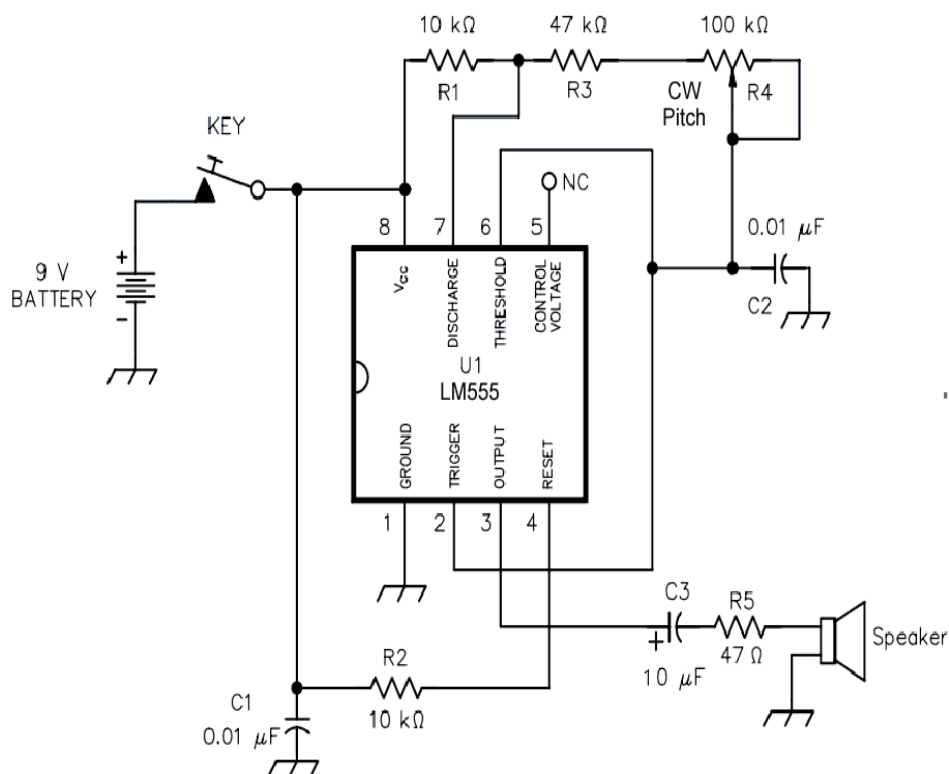

Figure 2: ARRL LM555 Code Practice Oscillator. (Adapted from <http://www.arrl.org/files/file/Technology/tis/info/pdf/NTY.pdf>)
Figure 2 is the schematic diagram of the circuit. This is a great starter circuit as it has few components and can be assembled in a single evening.
The circuit of Figure 2 is typical of LM555-based circuits. In this circuit, the LM555 is wired as an *astable multivibrator* (square-wave oscillator). It's connected to the 9V battery when the key is depressed. The tone frequency (CW pitch) is controlled by R1, R3, variable resistor R4, and C2. These components form the RC time-constants that define the overall frequency of the oscillator. Since R4 is a variable resistor, the RC time-constant is variable and this allows the
*Look at Figure 2 in Tom's article, the schematic diagram of Tom's CPO. Find pin 4 on the LM555 integrated circuit. Pin 4 is con*